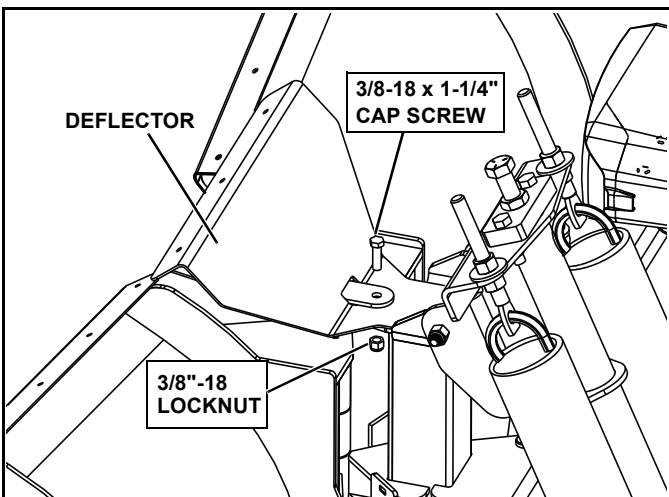

Figure 1-5
9. Take deflector and place on tower with the tab on the wing pivot pin going thru the rectangular hole of the deflector. Align bolt holes in the wing pivot pin, deflector, and tower. Push wing pivot pin down to the deflector and tower. (See Figure 1-5.)
10. Secure the wing pivot pin to the tower assembly with one 3/8" -18 x 1-1/4" cap screw and 3/8"-18 Locknut.(See Figure 1-5.)